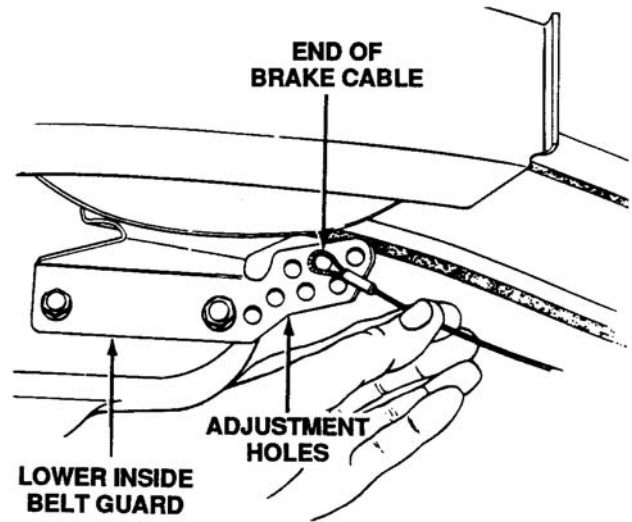

Figure 12-7. Adjusting Brake Cable
1. Disconnect the brake cable from the lower inside belt guard on the rider by removing the hairpin cotter, flat washer and clevis pin. See Figure 12-7.